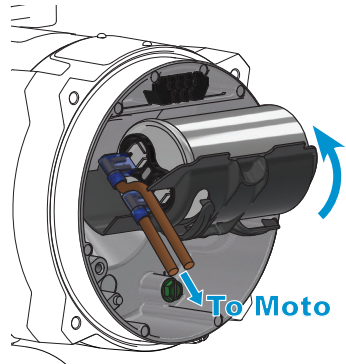

Figure 8
7. Replace the plastic cover by rolling the capacitor and plastic against the metal supports in the bottom of the housing and then snapping the plastic tabs into the wall of the metal housing. (see Figure 8)